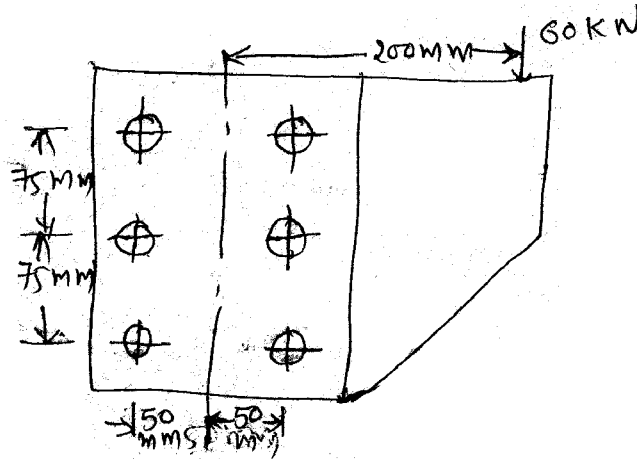

Fig. 1
- (b) A bracket is riveted to a column by 6 rivets of equal size as shown in Fig. 1 it carries a load of 60 kN at a distance of 200 mm from the centre of column if the maximum shear stress in the rivet is limited to 150 MPa. Determine the diameter of rivet. 8